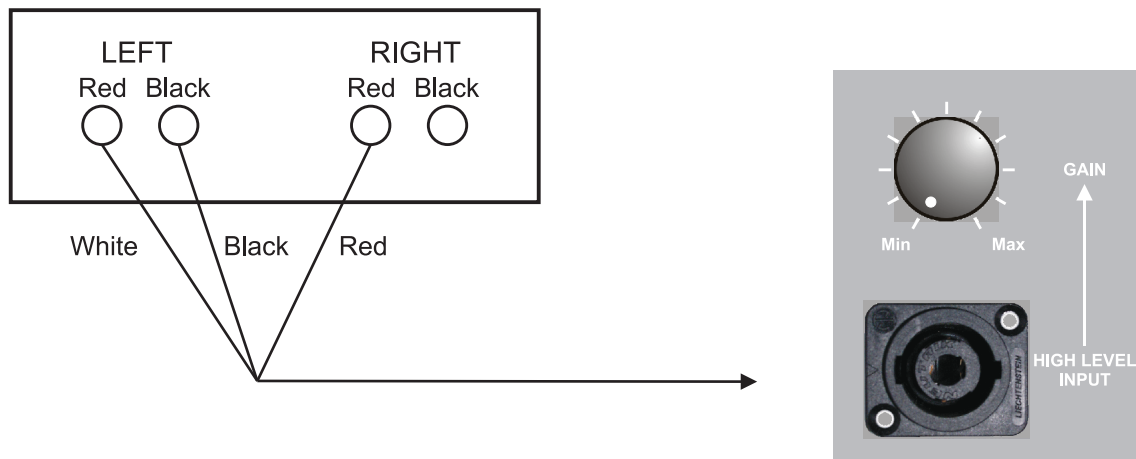
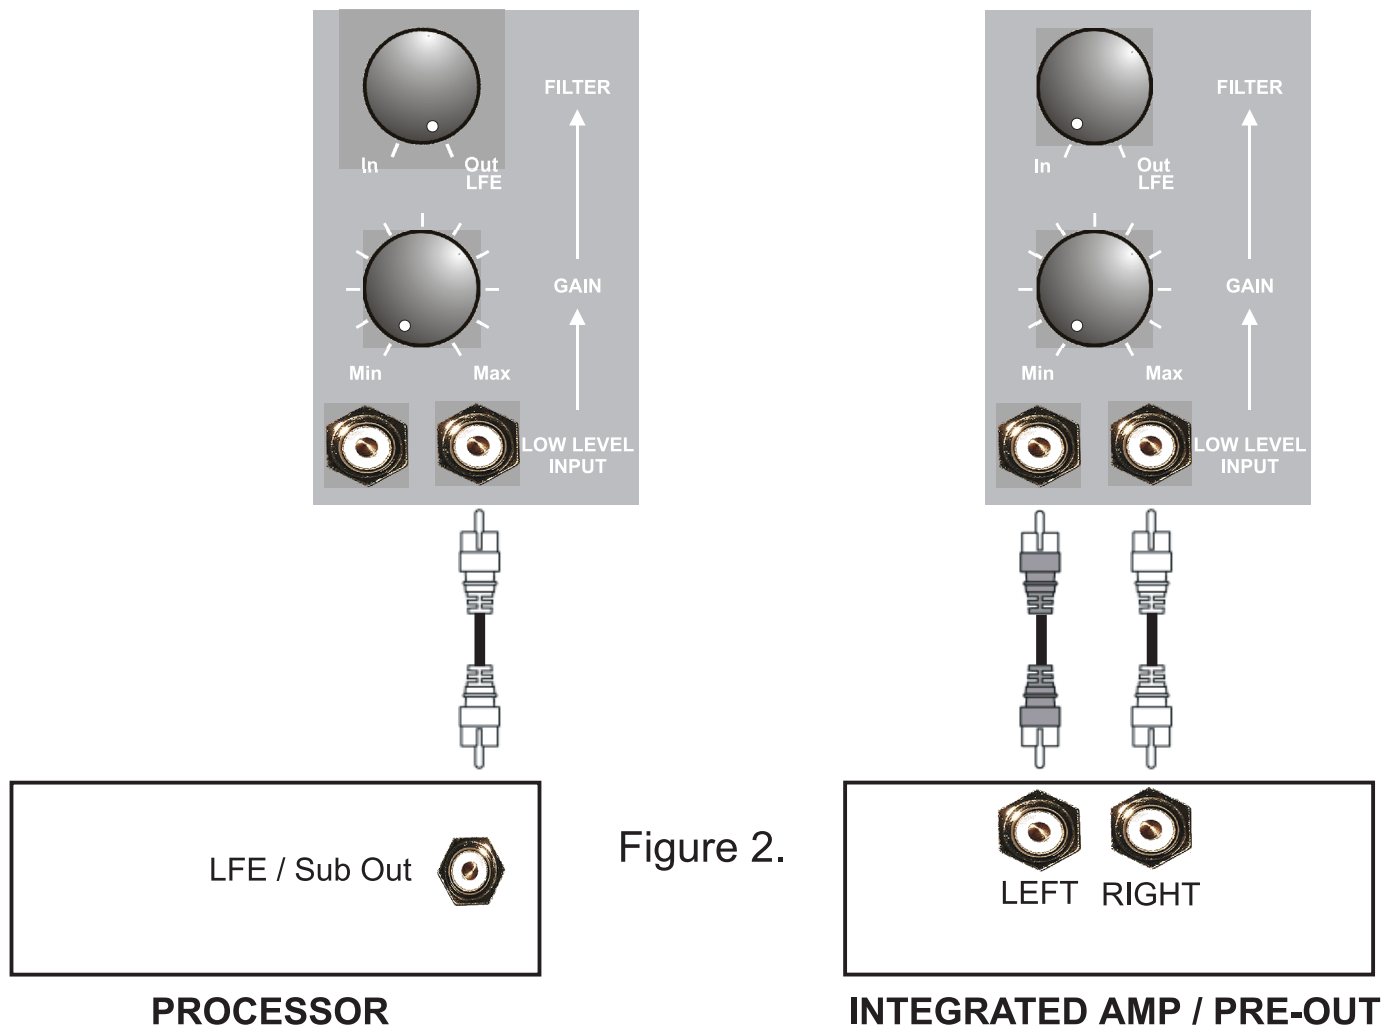

Figure 1.
Figure 2.
Figure 1. Shows a diagram on how to connect the high level input. Using the optional Neutrik lead, connect the XLS300 to the output of your amplifier via your existing speaker plug or to a spare set of speaker terminals if available. In effect you are Bi-Wiring your XLS300 to your power amp. Please note that the Neutrik cable has only three leads and is arranged this way to preserve the star earthing of your amplifier (assuming it has a star earth arrangement).
Figure 2. Shows a diagram on how to connect the low level input. Using the supplied RCA to RCA interconnect, plug one end into the XLS300 low level input and the other end into the dedicated sub output on your amplifier or processor. If a sub out is not available then you can use a spare set of pre-amp outputs.
- Connect your XLS300 as shown in Figure 1 or Figure 2. Then attach your subwoofer to the power supply using the power cable supplied, at this point have the power switch in the off position.